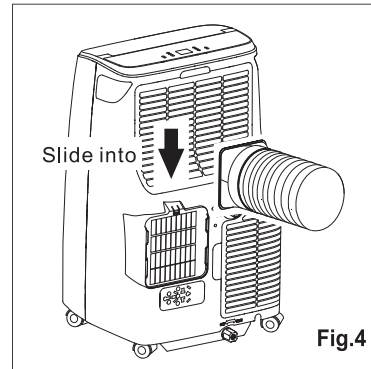

Fig.4
- 3 .Install the hose inlet into the unit (Fig.4).